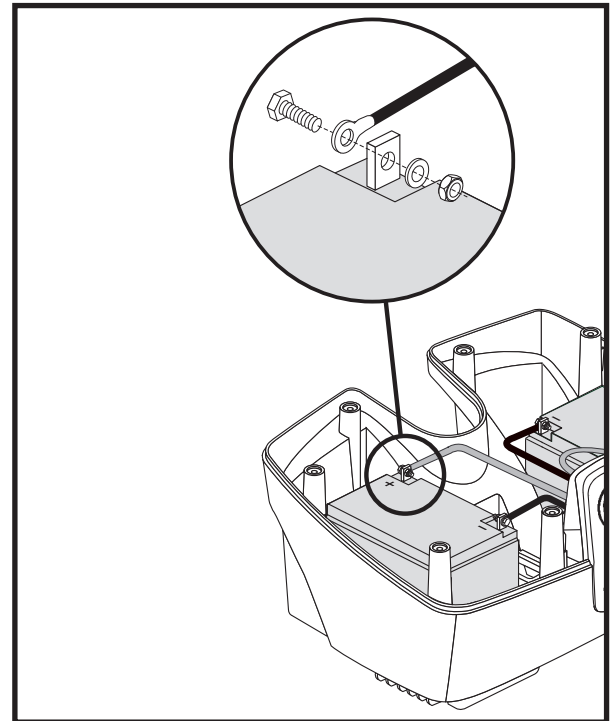

Figure 23. Disconnecting the Battery Cable on a 17-22 Ah Battery Box
**NOTE:** Some batteries require the removal of a nut and bolt when disconnecting the battery cable from the battery terminal. See figure 23.